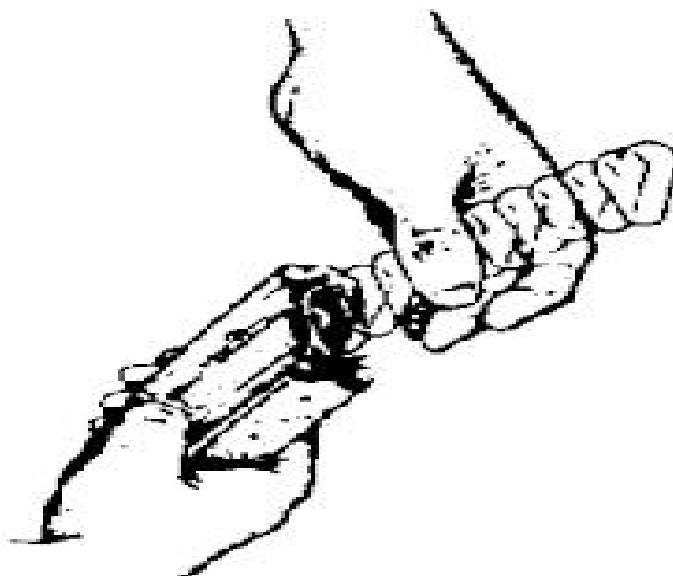

Figure E-42. Removing the magazine spring and the follower.
- c. Remove the spring and follower by jiggling spring and follower (figure E-42).